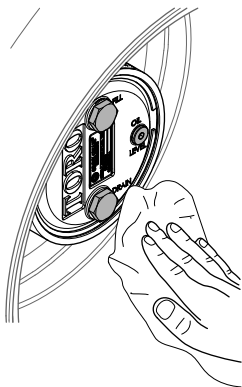

Figure 103
3. Wipe clean the planetary and brake housings (Figure 103).